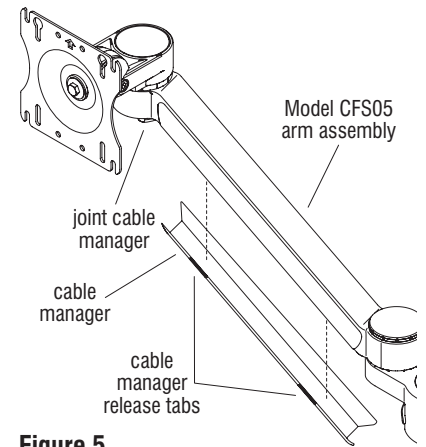

Figure 5
1. To remove the arm cable manager, pinch the two release tabs on the cable manager located on the underside of the Model CFS05 arm assembly (Figure 5).